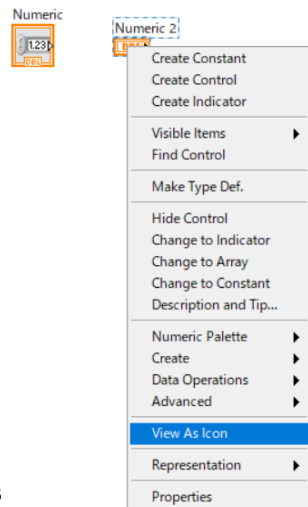
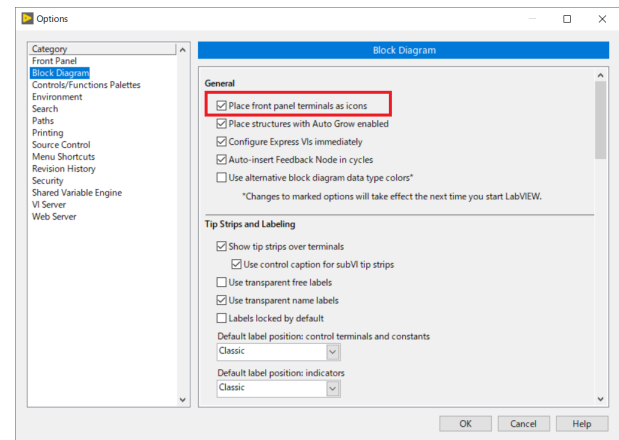

Figure 3-23 Terminals
Figure 3-24 Options window
Looking at the terminals, you may notice that the terminal you just made look different from the ones in the example VI (**Figure 3-23**). Don't worry, they are the same, yet they look different. Right-click on the terminal and uncheck **View As Icon** to make the terminal thinner. If you want the terminal to always look this way, go to the menu bar and select "**Tools > Options**" to display the options window (**Figure 3-24**) and uncheck "**Place front panel terminals as icons**" in the Block Diagram category. Let's set a value in the control and display it on an indicator. To do this we need to connect "**Power-Supply Voltage(V)**" control and "**Current (A)**"